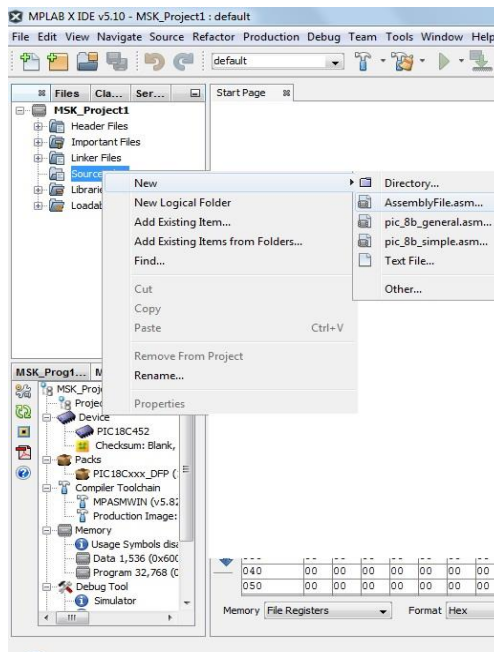

Fig 4.14 Your Project Window
11. On the Top Left side under your project section right click on “Source Files”. Click on “New” and select “AssemblyFile.asm” option as shown in Fig 4.14.